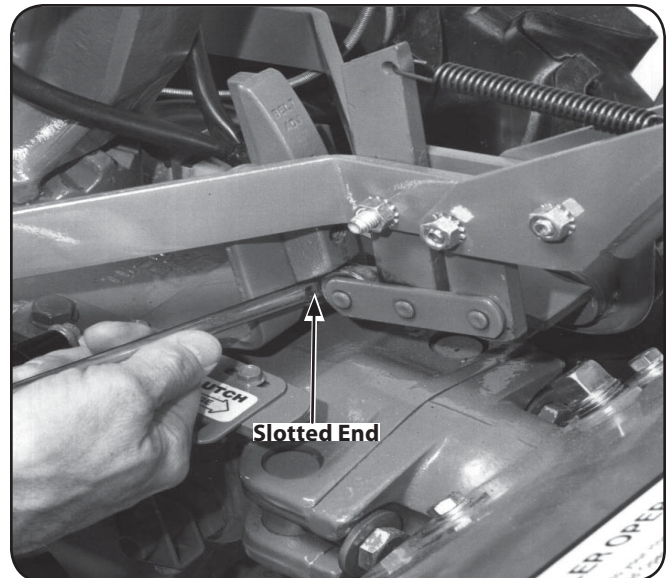

Figure 6-14
- a. Without moving the clutch roller, try inserting the $\frac{1}{4}$ "-thick, slotted end of the belt adjustment tool in between the roller and the upright bracket. The flat edge of the tool must be facing the roller. See Fig. 6-14.